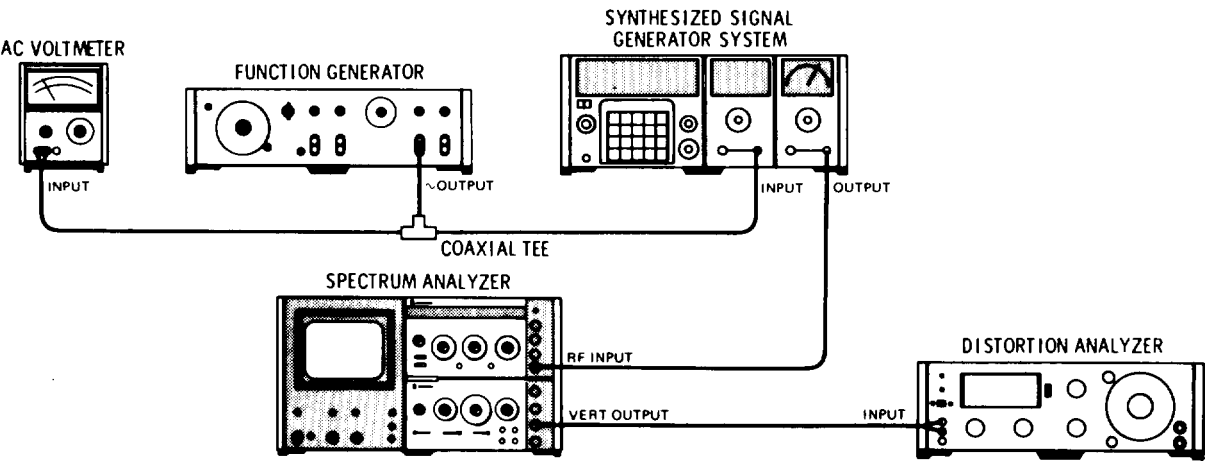

Figure 4-11. Amplitude Modulation Distortion Test Setup.
3. Connect the equipment as shown in Figure 4-11.